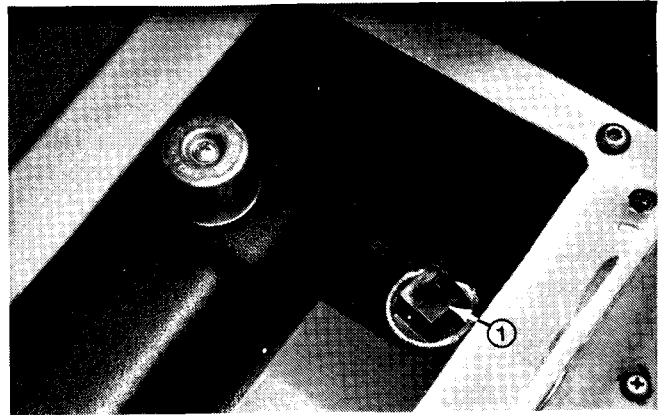

Figure 23
1. Disconnect wiring connector and remove low hydraulic oil level switch from reservoir (Fig. 23).